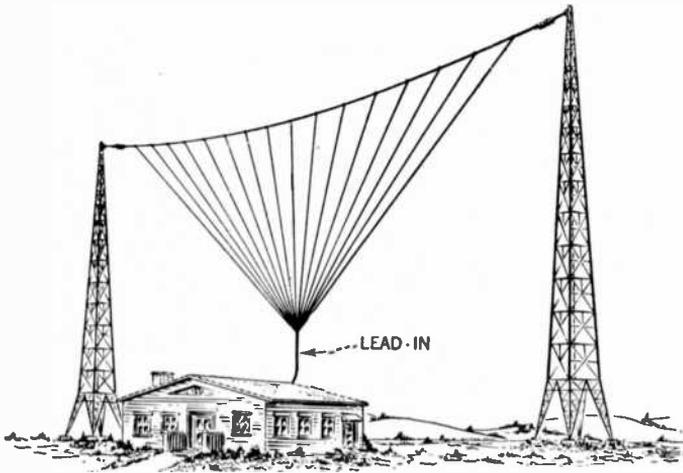

FIG. 45.—The vertical fan-type antenna.
(4) *Fan type.* The harp or fan antenna shown in Figure 45 consists of a fan of copper or silicon bronze wires erected vertically in the same plane and supported at their free end by a wire attached to supporting towers. The free end of each vertical conductor may or may not be soldered or electrically connected to the supporting wire. All wires converge at the lower end and are attached to a lead-in which passes through a large insulator where it enters the transmitter building. Although this vertical type antenna is an efficient radiator of electromagnetic waves its construction prohibits its general use.